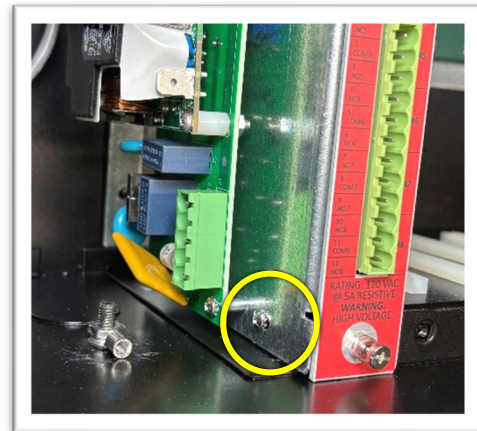

Figure 2.6
- 8) Use the #1 Phillips 90°, low-profile, (SAE) screwdriver to remove the bottom screw from the power supply bracket. (See Figure 2.6; yellow)